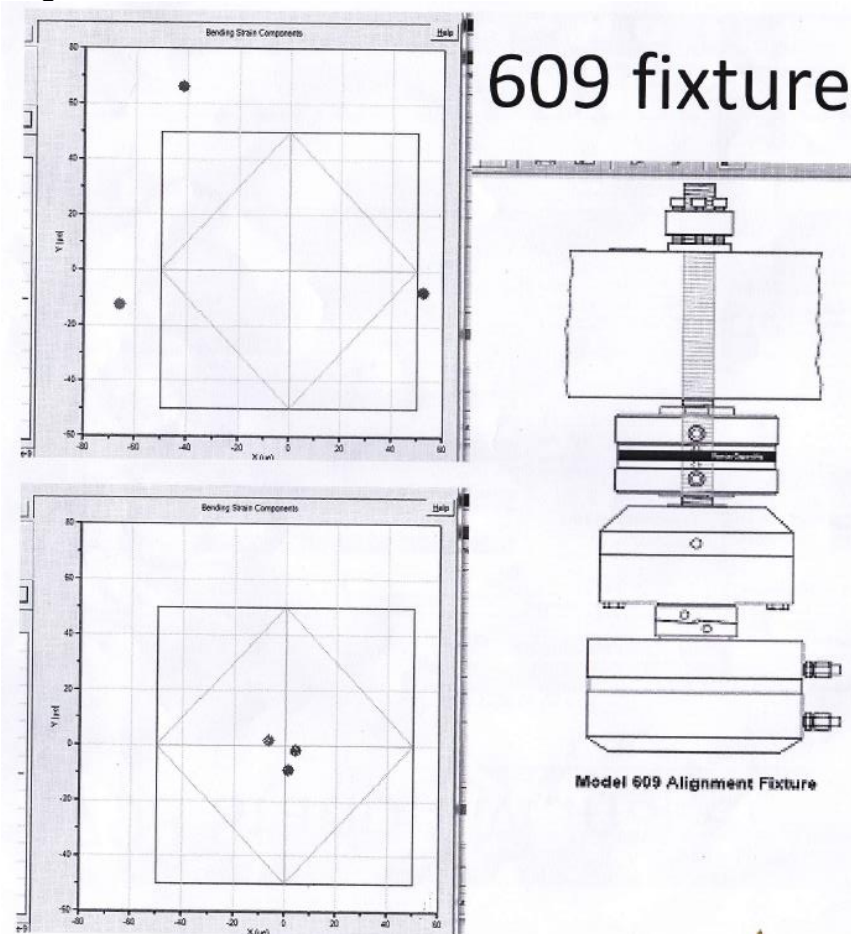

Figure 9: Adjusting the dots
- s) The system is trying to move the three dots as close to the center of the box. Need not all dots exactly at the center, as long as they are close to center as shown in Figure 9.